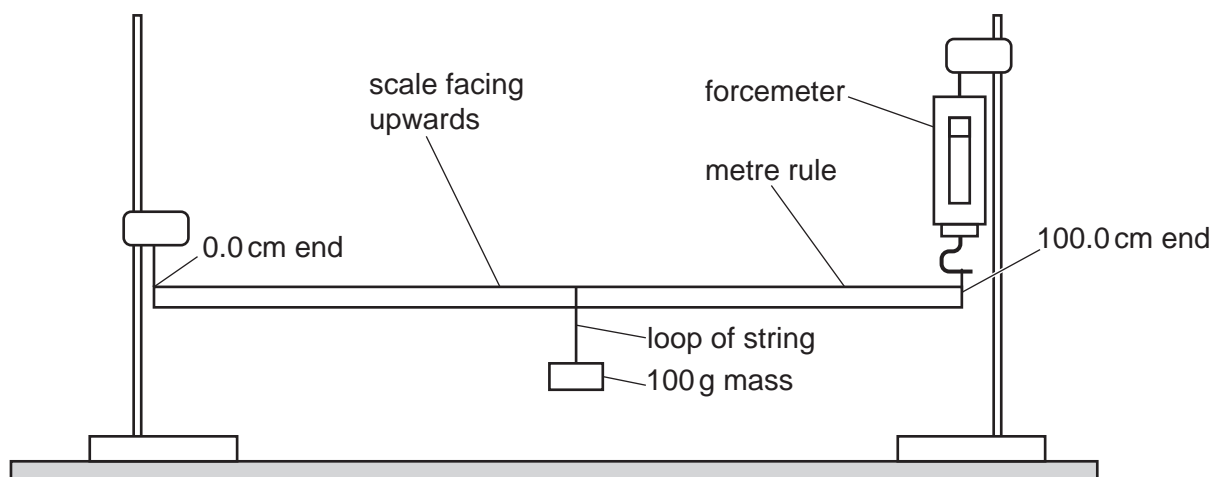

Fig. 3.2
4. The apparatus must be set up for the candidates as shown in Fig. 3.2, with the metre rule suspended between a clamp at the 0.0cm end and the forcemeter at the 100.0cm end. When the 100 g mass is suspended at the 95.0 cm mark, with the metre rule horizontal, the mass must be clear of the bench and the clamp holding the forcemeter must be below the top of the stand. The wires suspending the metre rule must be vertical. The 100 g mass should be suspended near the centre of the rule.
Check that the apparatus is arranged as shown in Fig. 3.2 with the 100 g mass near the centre of the rule.